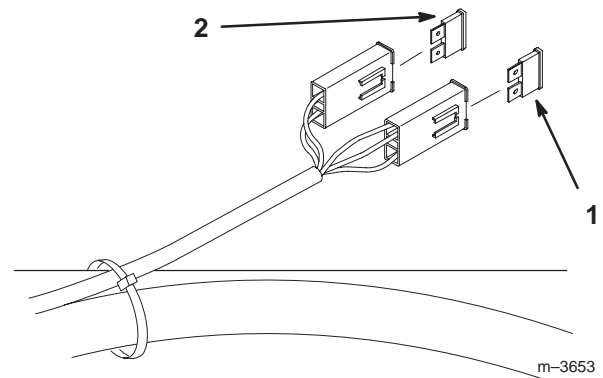

Figure 61
1. Raise the seat to gain access to fuse holder (Fig. 61).
2. To replace the fuses, pull out on the fuse to remove it (Fig. 61).